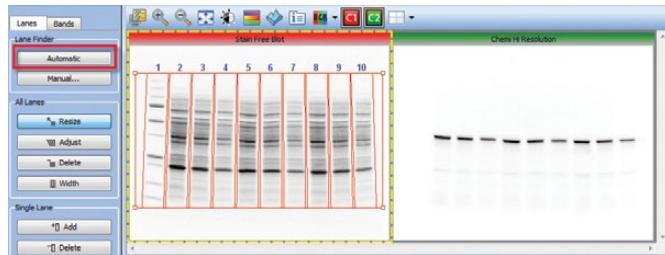

Fig. 3. Automatic detection of the lanes of the stain-free blot.
- Detect the lanes of the stain-free blot by highlighting the stain free blot channel (Figure 3). Click **Lane and Bands** from the Analysis Tool Box; in the Lane Finder box, click **Automatic**